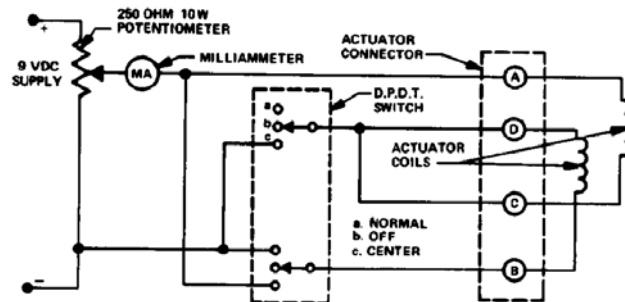

Figure 5-1. Actuator Adjustment Test Circuit
1. Connect the test circuit to the terminal block on the actuator as shown in Figure 5-1. Set the test switch to OFF. Remove the fuel linkage to engine or test stand.